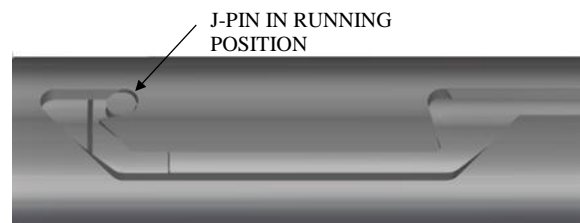

Fig. 7
- L-2.17) Position J-pin of J-pin bottom sub (23) in running position in J-slot of J-body (20) (Fig. 7).
- L-3) Unclamp top sub (1) from vise and remove assembled tool.